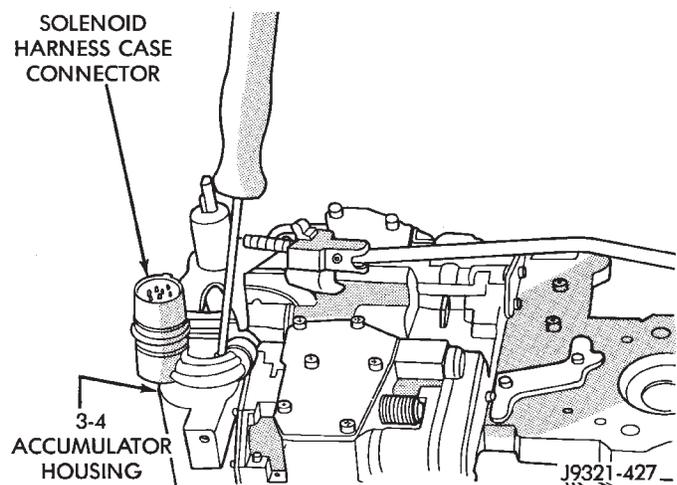

Fig. 65 Solenoid Harness Case Connector Shoulder Bolt
- (1) Remove fluid filter.
- (2) Disconnect wires from governor pressure sensor and solenoid.
- (3) Remove screws attaching governor body and retainer plate to transfer plate.
- (4) Remove retainer plate, governor body and gasket from transfer plate.
- (5) Disconnect wires from governor pressure sensor, if not done previously.
- (6) Remove governor pressure sensor from governor body. Sensor is retained in body with M-shaped spring clip. Remove clip with small pointed tool and slide sensor out of body.
- (7) Remove governor pressure solenoid by pulling it straight out of bore in governor body. Remove and discard solenoid O-rings if worn, cut, or torn.
- (8) Remove small shoulder bolt that secures solenoid harness case connector to 3-4 accumulator housing (Fig. 65). **Retain shoulder bolt. Either tape it to harness or thread it back into accumulator housing after connector removal.**